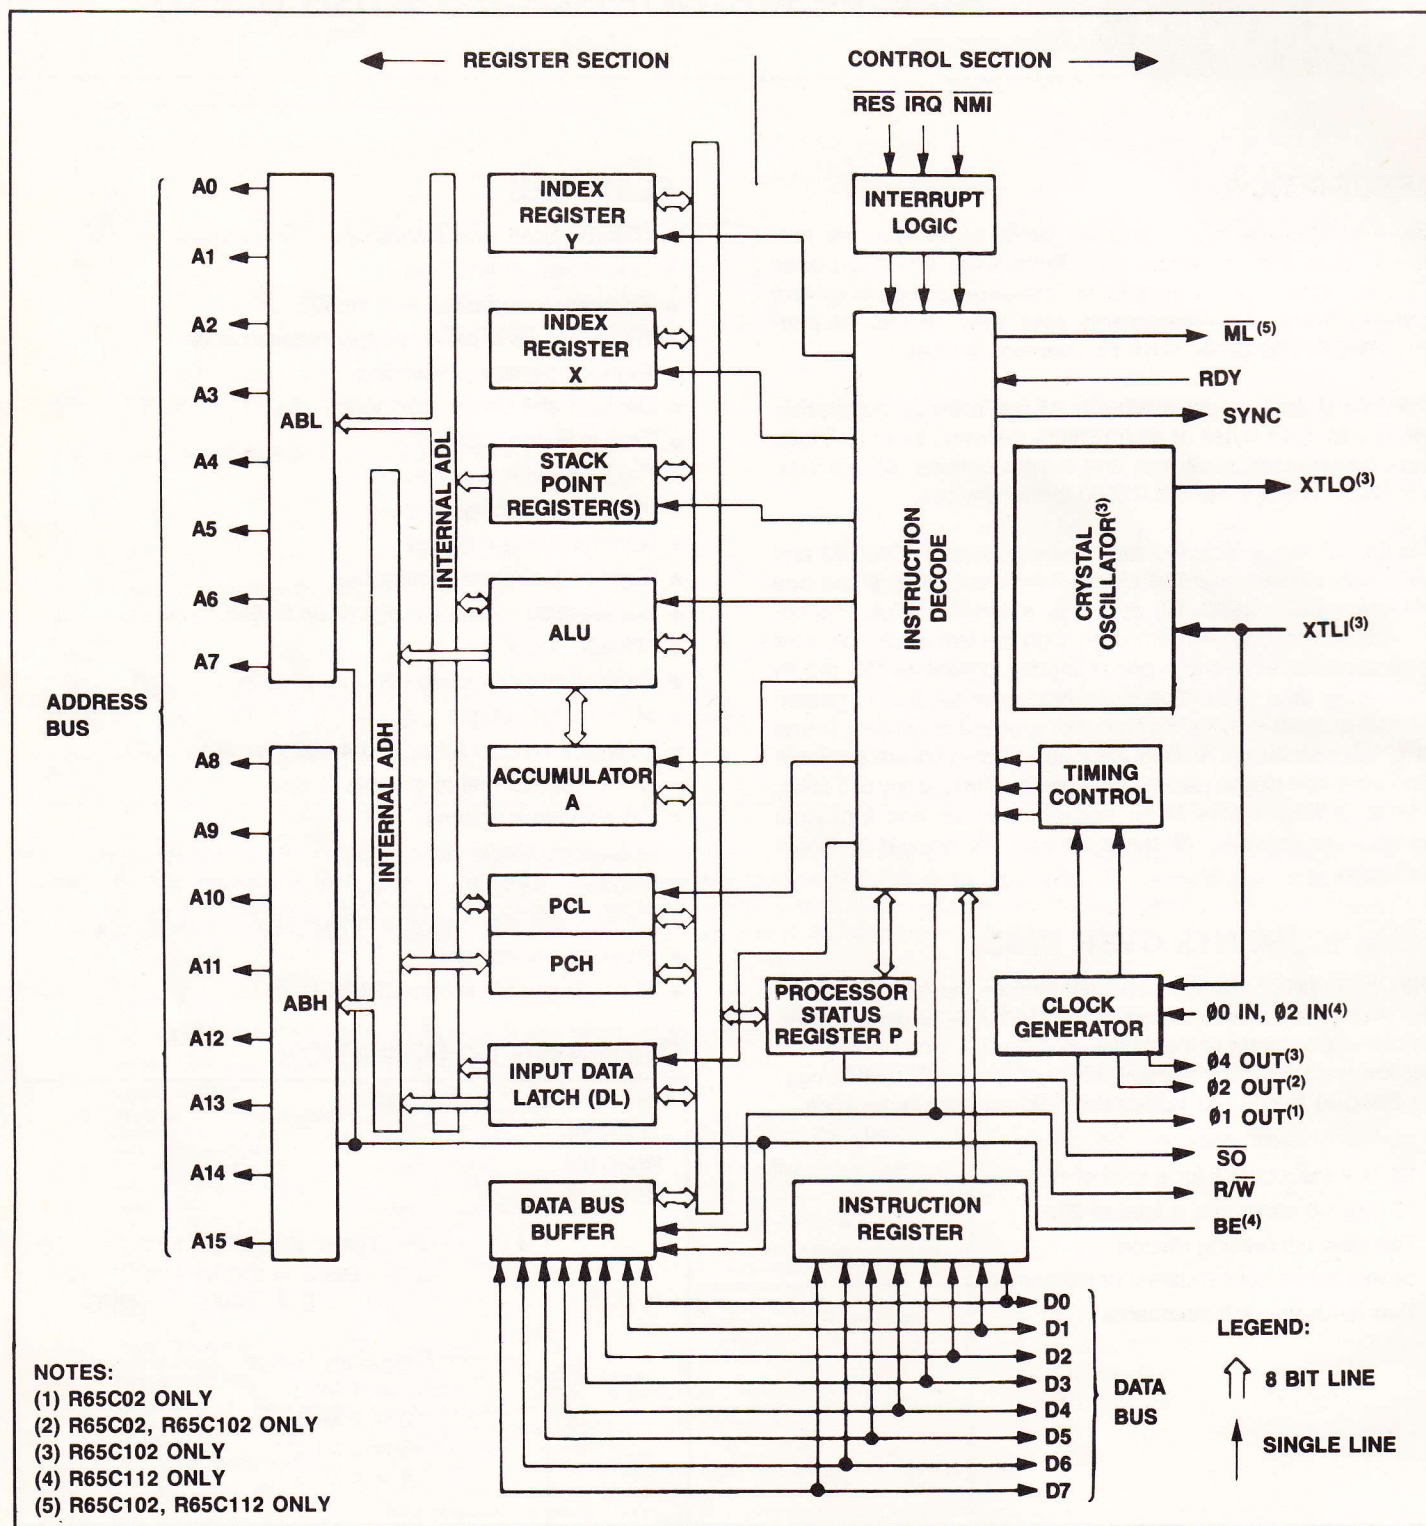

Figure 1. R65C00 Internal Architecture
With the exception of a crystal oscillator, clock signals, Memory Latch (ML), and Bus Enable (BE) signals, the internal architecture of the three members of the R65C00 CPU of devices is identical. Figure 1 shows the block diagram of the R65C00 CPU